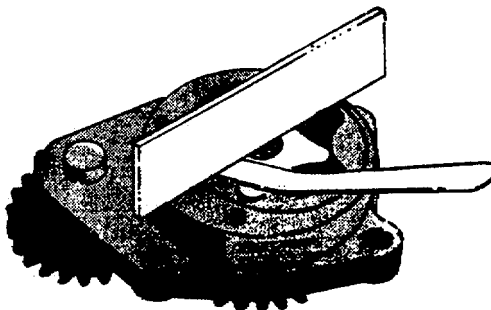

FIGURE 3-65. Drive/Planetary to Port Plate Measurement
- h. Measure the clearance of the gerator drive/gerator planetary to port plate (FIGURE 3-65). Maximum: 0.005 inch (0.127 mm).